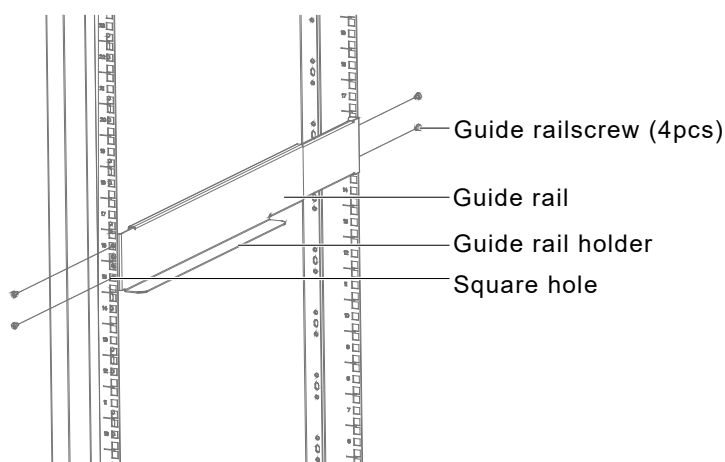

Figure 2-9 Installing the guide rail
c) Align the installation holes of the guide rail with the square holes of the rack, fix the guide rail onto the rack through the guide rail screws (totally eight), each left guide rail and right guide rail need four guide rail screws, as shown in Figure 2-9.